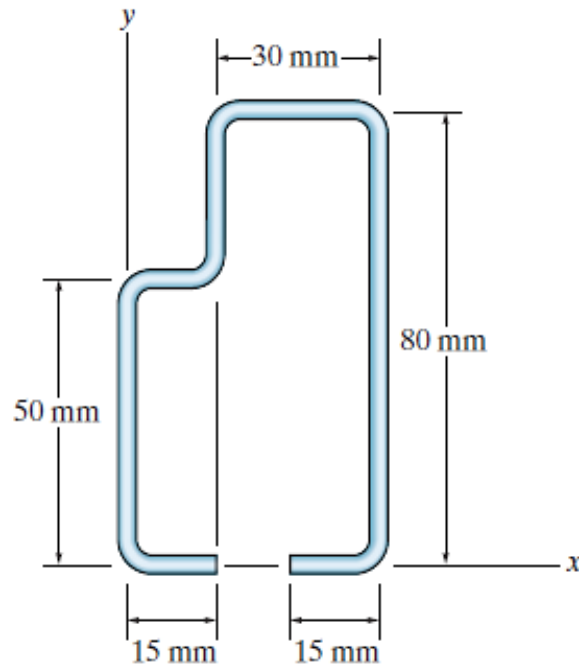

Figure Q4(a)
- (a) Determine the x -coordinate of centroid for length of the sheet steel shows in Figure Q4(a). The dimensions are indicated at the center thickness of each segment.